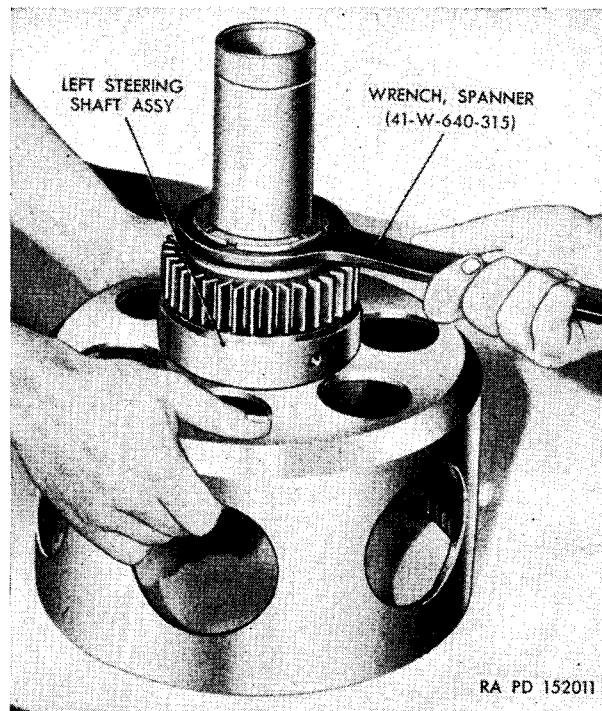

Figure 272. Removing or installing left steering-shaft lock nut.
- (4) Inspect the right steering shaft and the left steering shaft assemblies. If the left steering-shaft bearing or gear is defective, it will be necessary to disassemble the left steering shaft. To disassemble, bend back the tabs on the lock washer. Using spanner wrench (41-W-640-315), remove the lock nut from the left steering shaft (fig. 272).
- (5) Remove the tabbed lock washer and the left steering shaft gear from the shaft. If inspection shows the bearing to be defective, turn the shaft over and
- (8) Install the gear on the shaft so that the gear's longest shoulder is against the ball bearing. Install the tabbed lock washer and lock nut. Tighten the lock nut to 300 pound-feet, using spanner wrench (41-W-640-315) (fig. 272) and bend a tab of the washer into the nut to secure it.
- (9) Inspect the right steering shaft, bearing support, bearing, gear, split-spacer, and splined spacer. Install the bearing in the support. Install the bearing-retain-